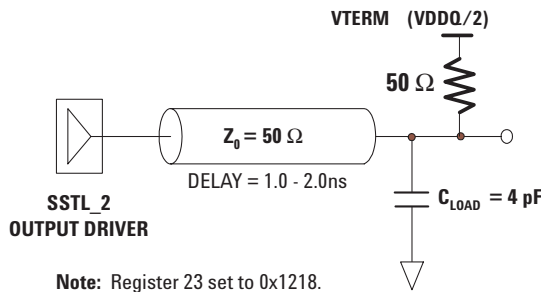

Figure 12. SSTL_2 Output Test Conditions.
1. Tested under load conditions described in Figure 12, with $V_{IH} = V_{REF} + 0.18$ and $V_{IL} = V_{REF} - 0.18$.
- See Figure 12 for measurement conditions.